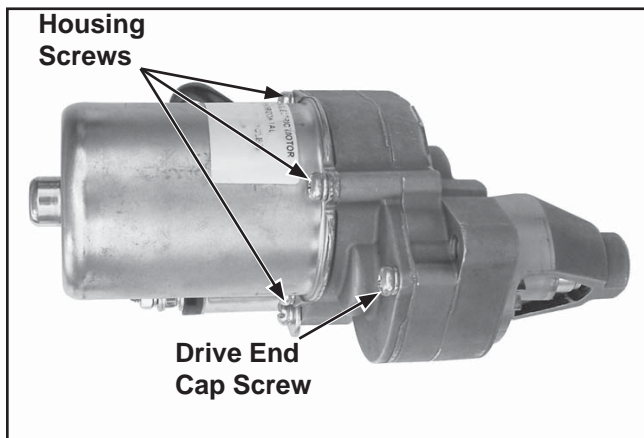

Figure 8-17. Reinstall Housing and Drive End Cap Screws.
10. Reinstall and securely tighten the housing and drive end cap screws. See Figure 8-17.